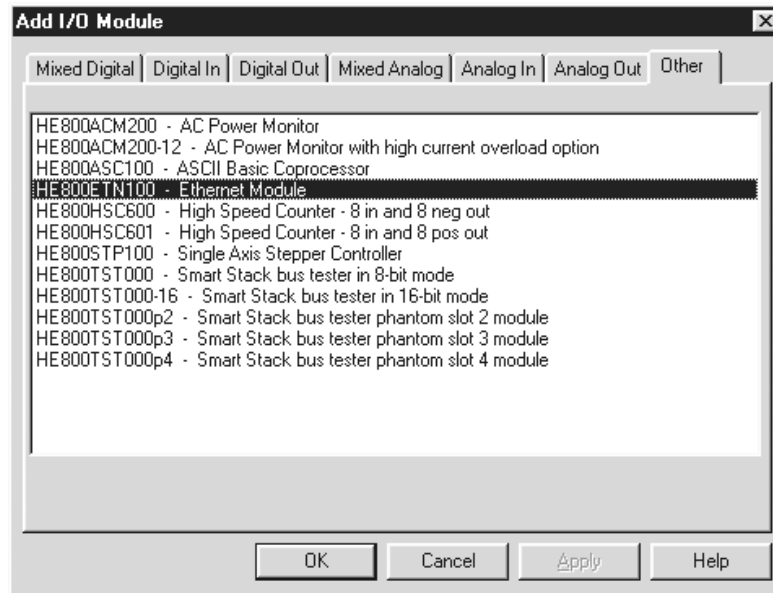

Figure 3.2 – Selecting ETN100
4. The Add I/O Screen appears. Press **Other** and use the mouse to select the ETN100 as shown in Figure 3.2 address OK.